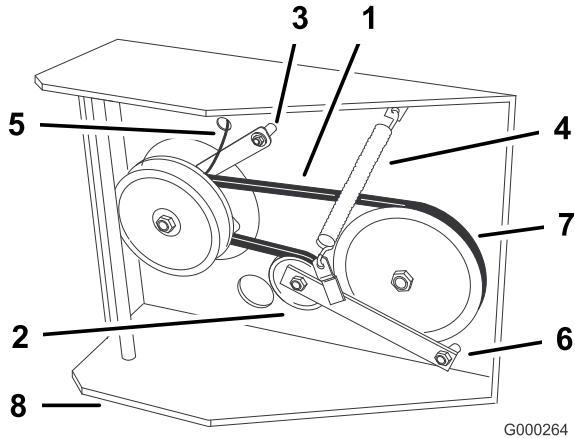

Figure 43
7. Disconnect clutch retainer from the engine deck (Figure 43).
8. Unhook tension spring from side of frame (Figure 43).
11. Torque pivot bolt to 47-54 N-m (35-40 ft-lb). Install tension spring between idler arm and frame bracket (Figure 43).
12. Install clutch retainer to the engine deck (Figure 43).